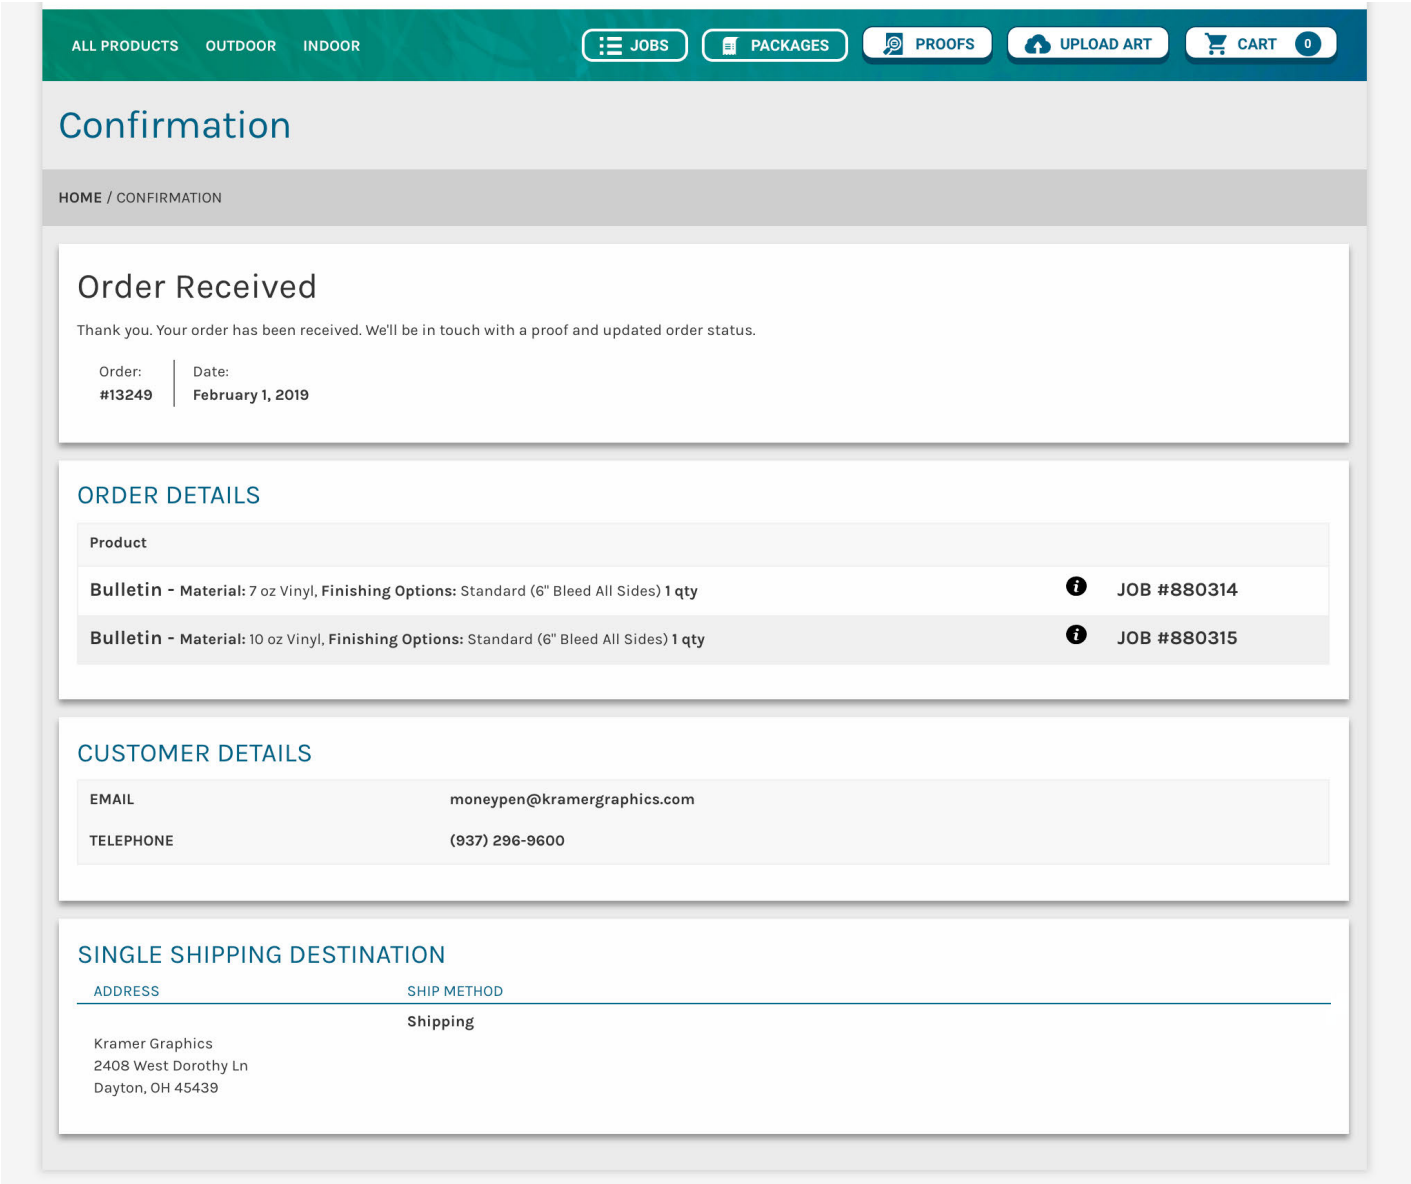

Fig. 10
9. This brings us to the last step in the order process which is the **Confirmation Page**. This page gives an overview of the order that was just placed and the Job Number(s) assigned to the order. An email that looks similar to this page will also be sent. (see Fig. 10)